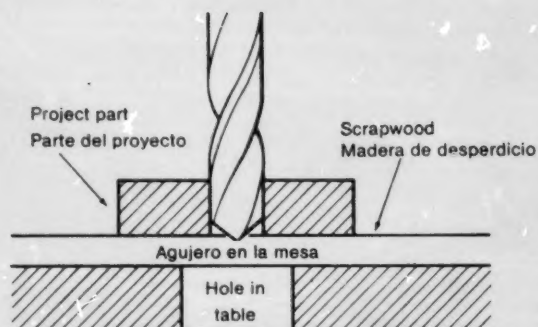

Figure 17-8 Line up the drill with the hole in the table
6. Adjust the table to the proper height and tighten the table lock. The table must be adjusted so that the cutting tool hits the middle of the centerhole in the table (Figure 17-8).